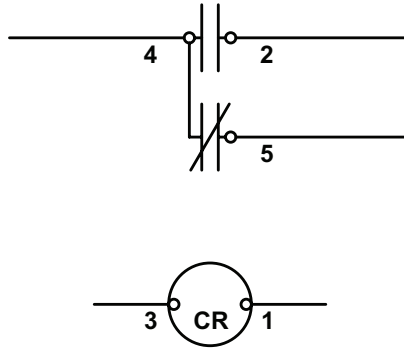
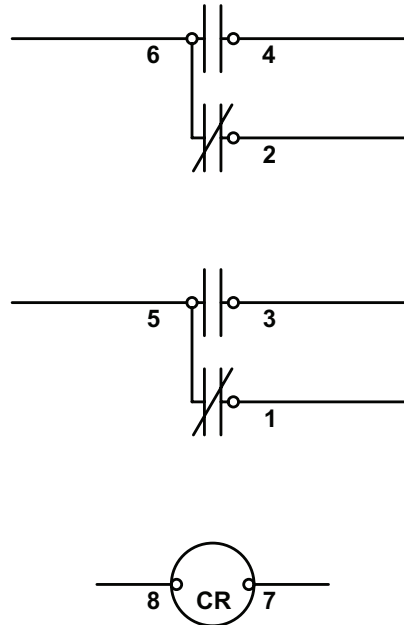

Figure 25. Wiring Diagram (Kits 263527 and 263530)
Figure 26. Wiring Diagram (Kits 263528 and 263529)
7. Reconnect relay wires in accordance with Figure 25 or Figure 26.